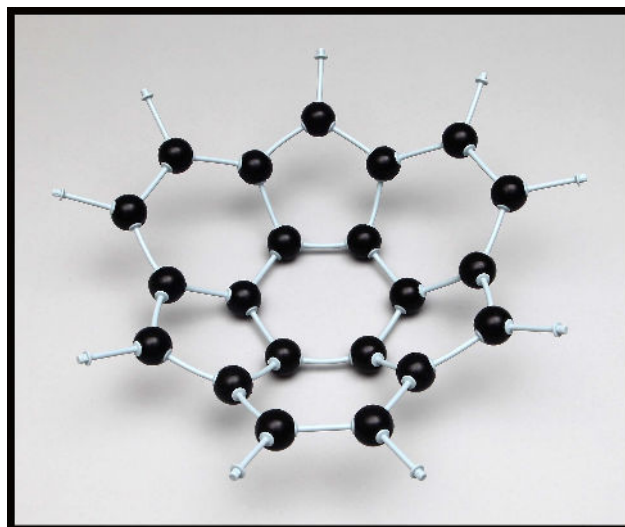

Fig. 5 Nine connectors attached to the nine atoms at the outer edge of the model.
5. Insert a grey connector, into each atom center at the outer periphery of the model. Examine the photo in the next figure for the proper location of the nine atoms that get the connectors. (Fig. 5)